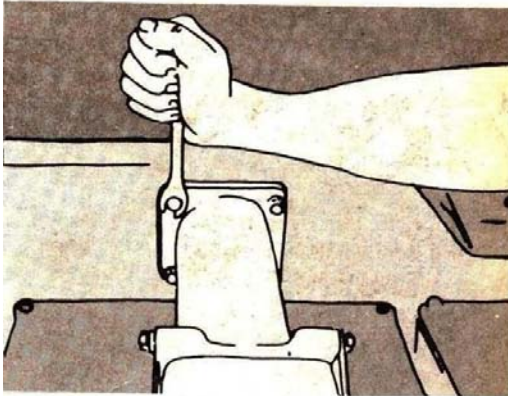

Fig. 14-103, Tighten the air crossover connection capscrews
10. Put the air crossover connection with the gasket over the crossover tube. Tighten the capscrews to 30 to 35 ft.lbs (41 to 47 Nom) torque. Fig. 14-103